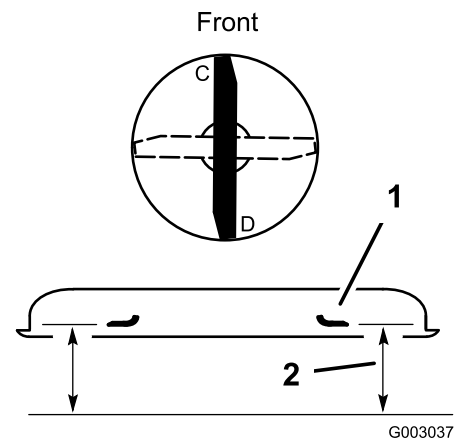

Figure 51
2. Position one blade front-to-rear (Figure 51). Measure at **C** and **D** locations from a level surface to the cutting edge of the blade tips (Figure 51).